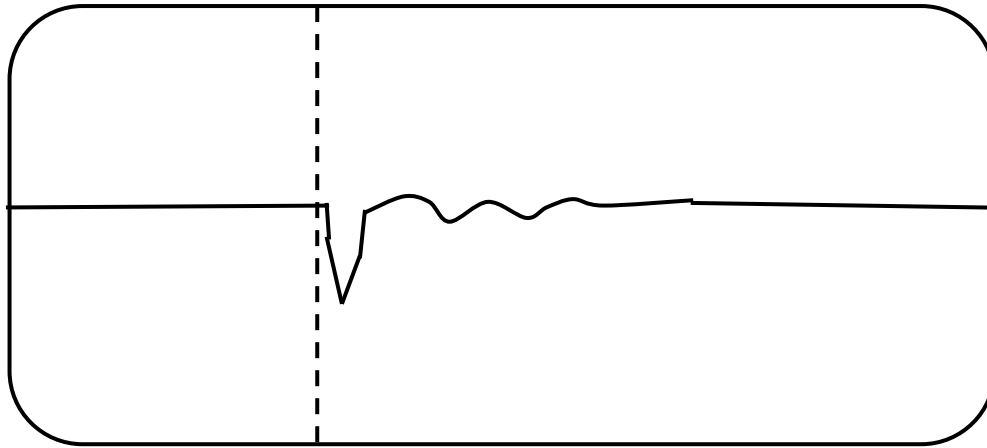

Fig.6
This fault is similar to item 5.5 but happen at Cable joint which contaminated by wet environment. Fault trace is as Fig. 6 which after splice be followed by small sine or square that decreasing gradually.